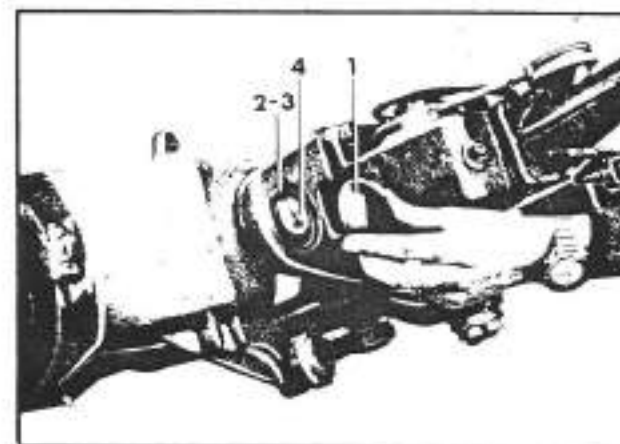

Fig. 3-42. Further dismounting of the articulated joint
- If further disassembly is required, take off the cover (1; fig. 3-42) and remove the retaining ring (2; fig. 3-42), the bearing (3; fig. 3-42), and the pin (4; fig. 3-42). Perform the same operation on the group on the other side.